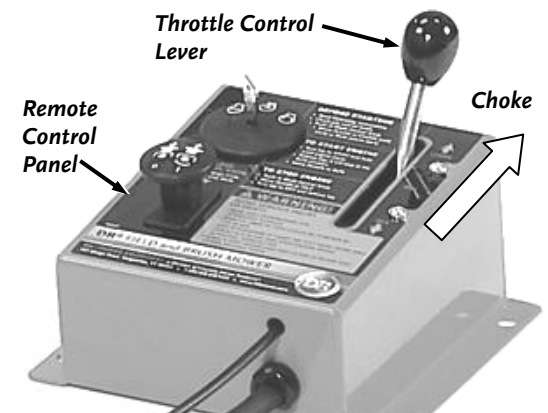

Figure 15
3. Move the Throttle Control to the Choke position on the Remote Control Panel (**Figure 15**).